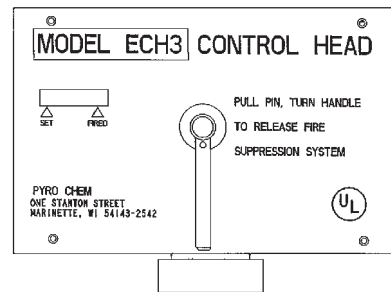

Figure 2-5. Electric Control Head.
The Model ECH3 control head is available in both 120 VAC (Model ECH3-120, P/N 551202) and 24 VDC (Model ECH3-24, P/N 551201). It is equipped with a local manual control handle that allows for mechanical system actuation. Operation of the local manual control requires removing the pull pin and rotating the handle clockwise. The Model ECH3 control head can actuate a maximum of five (5) cylinders with the 16 gram CO₂ cartridge. See **Figure 2-5**.